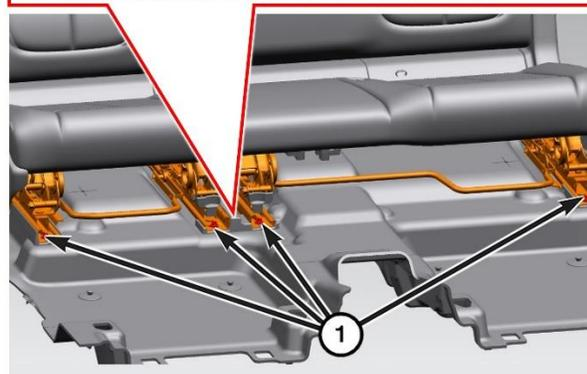

Figure 18 – Seat Front Bolts
12. Second row seats, remove the front seat track connector screw (Figure 18).
13. Second row seats, remove the front seat to floor bolts (1) (Figure 18).